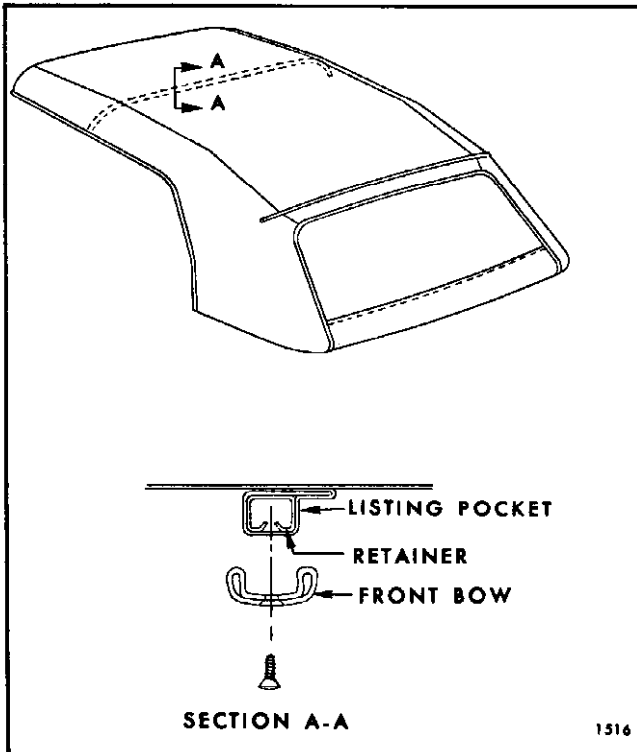

Fig. 13-4 - Listing Pocket Retainer
15. At underside of front bow, remove screws securing listing pocket retainer to bow (Fig. 13-4).